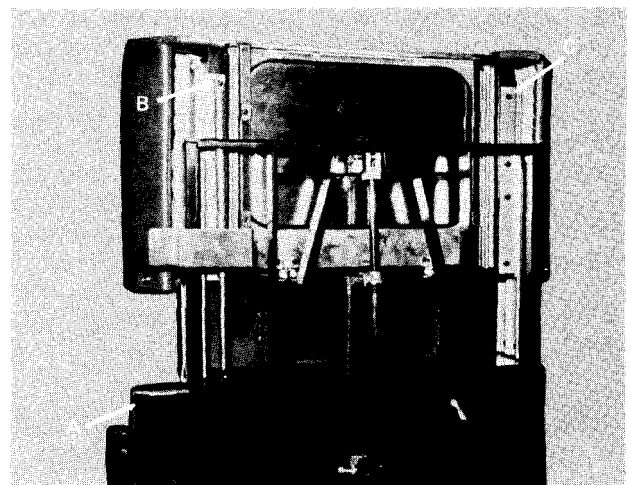

Fig. 6
- 5) On the 114 Only, remove the (4) wood screws located under the front outer edge of the seat section. Item A, Fig. 6.
- 5) On the 114 Only, install (4) wood screws under outer front edge of seat section, Item A, Fig. 6.
- 1) Remove screw Item B, Fig. 6 from lateral locking mechanism to expose (4) mounting screws.
- 2) Remove (4) mounting screws from each side of frame, Item C, Fig. 6.
- 4) Remove (4)#10-24 x 5/8" screws from upholstered foot section.
- 1) Place footrest upholstered section on frame and align holes and install (4) #10-24 x 5/8" screws in footrest upholstered section.
- 2) Install (4) mounting screws on each side of frame, Item C, Fig. 6.
- 3) Install screw, Item B, Fig. 6 in lateral locking mechanism.